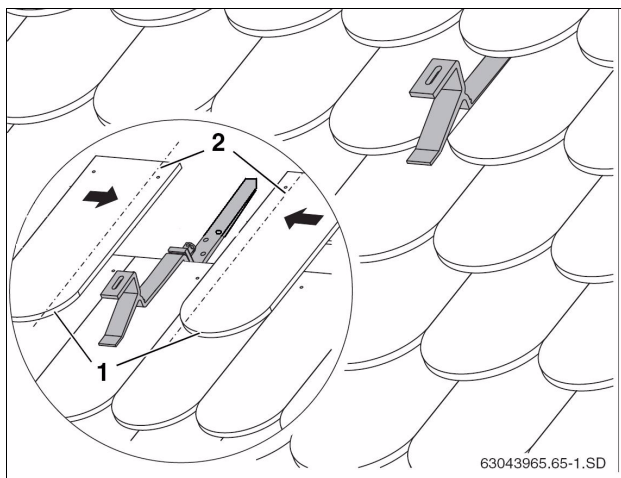

Fig. 18 Tiles/shingles may have to be trimmed to size
- ▶ Using suitable screws, attach the upper part of the roof hook (Fig. 18) through the sheathing to the building substructure.
- ▶ If necessary cut adjacent shingles/tiles (Fig. 18, [1]) to size (dashed line, Fig. 18, [2]).